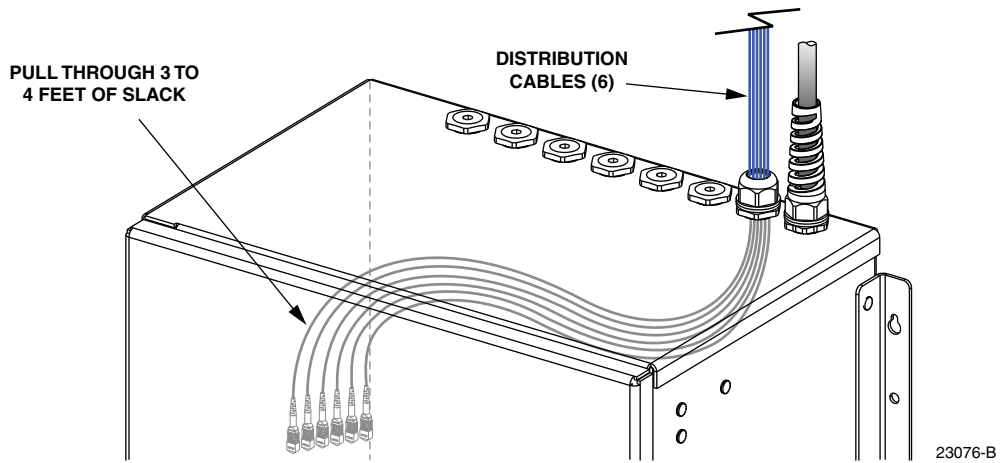

Figure 46. Inserting Distribution Cables into Compression Fitting
7. Insert the connectorized ends of the six distribution cables through the installed compression fitting as shown in Figure 46 and pull through 3 to 4 feet of cable slack into the cabinet.